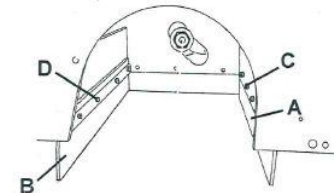

Figure 17
- The rear baffle (A, Figure 17) touches the ground.